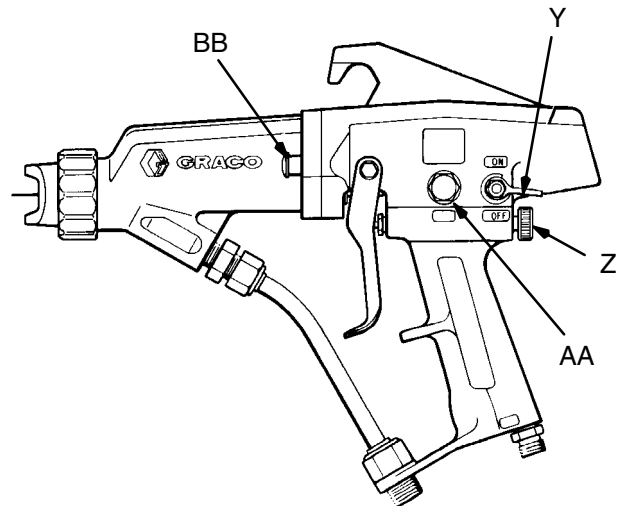

Fig 2
1. Turn the ES On-Off valve to OFF. See Fig 2 for the location of the valve lever.
When spraying, the ES indicator lights (BB) should glow, indicating the electrostatic charge. See Fig 2.
2. For fine adjustment, use the adjusting knob (Z) located at the rear of the gun. See Fig 2. Turn the knob clockwise to reduce the amount of fluid being sprayed and counterclockwise to increase the amount of fluid being sprayed.
4. Be sure the fan adjusting knob (AA) is closed (turned fully clockwise).